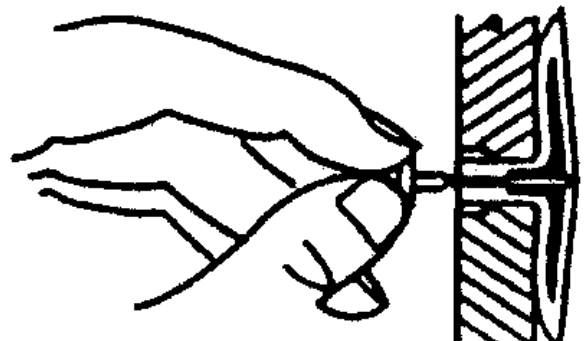

Figure 5 - Popping Open Anchor Wing For Thin Walls
- d. For thin walls (1/2" or less), insert red key into wall anchor. Push red key to pop open anchor wings (see Figure 5).